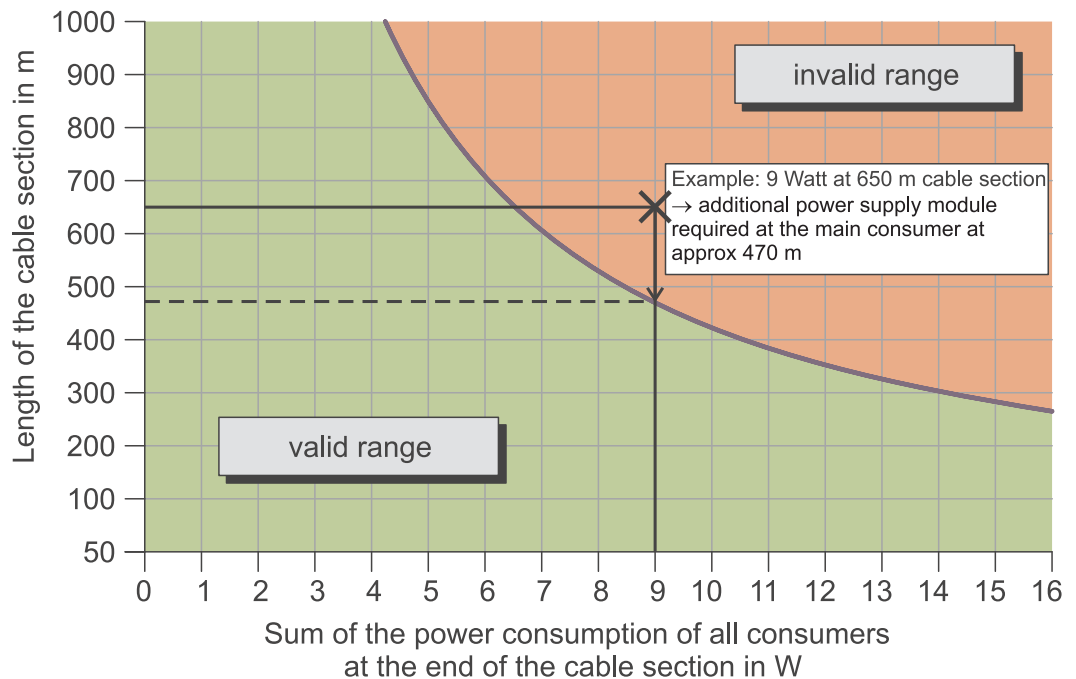

Fig. 3-3 Diagram to check the power supply
- Enter both values as a point in the diagram (point "x" in Fig. 3-3).